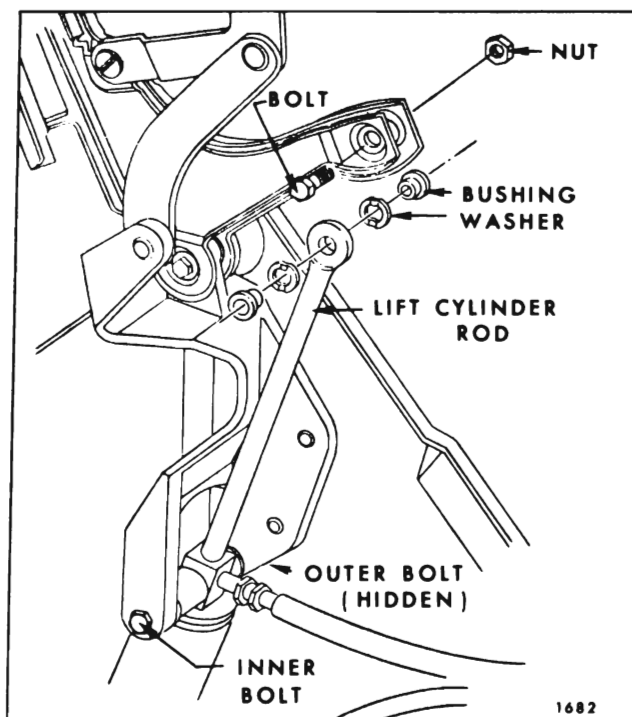

Fig. 13-71 — "B and C" Body Hydraulic Lift Cylinder Attachment
7. Remove inner and outer bolt securing cylinder to male hinge (Fig. 13-71).